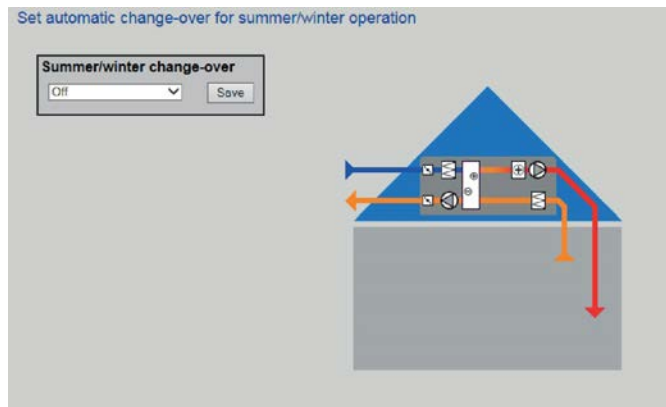

Fig. 36: Summer/winter change
- ▶ Select the desired type of control from the drop-down list (Fig. 36/1).